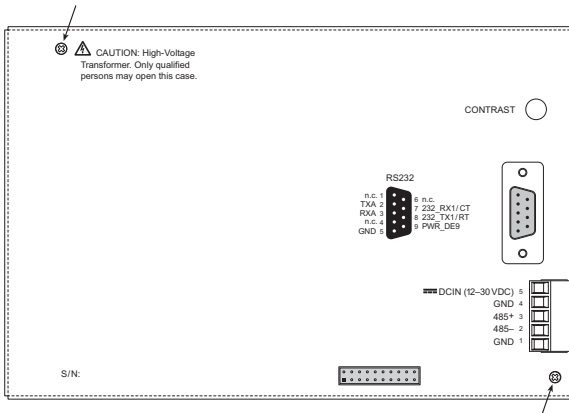

Figure 2-3. OP7100 Back Cover
1. Unplug any power supply connected to the OP7100 and remove the back cover from the OP7100 assembly. The back cover is attached with the two screws shown in Figure 2-3.
Compiling and running this sample program will overwrite the Z-World demonstration program shown in Figure 2-3.